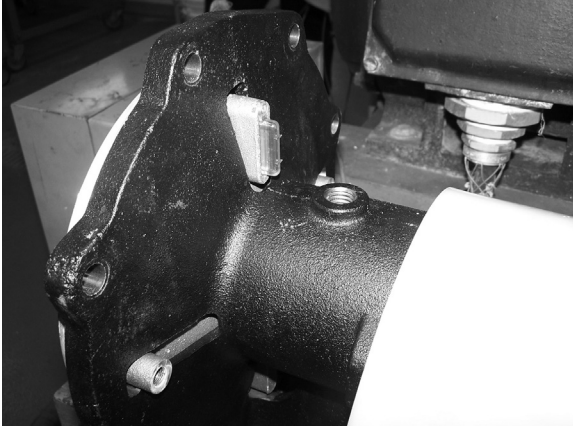

Figure 4
2. Assemble the rear chamber plate onto the pedestal, taking care to avoid hitting the mechanical seal on the pump shaft (Figure 3). The sight glass on the back chamber plate should be oriented so that it is positioned at the top of the pump (Figure 4).